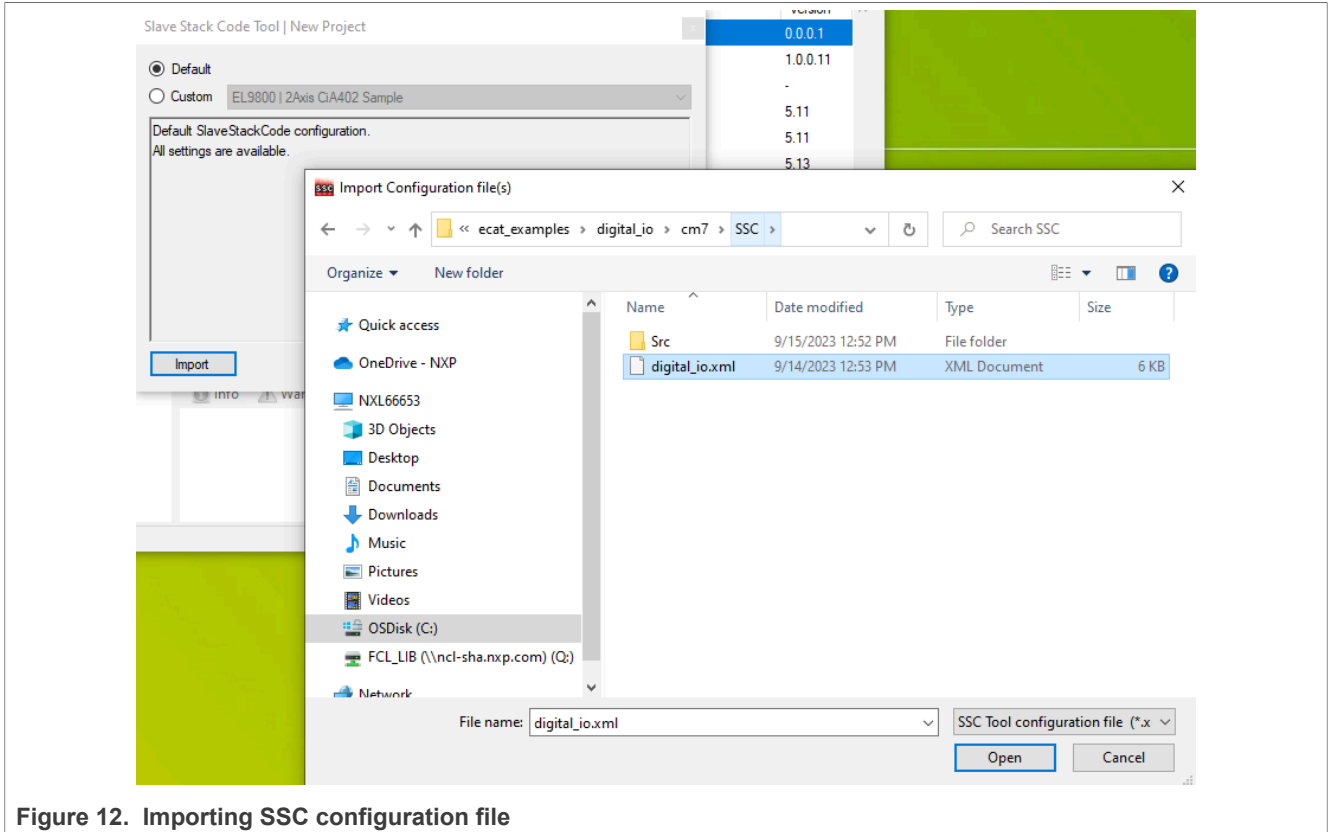

Figure 12. Importing SSC configuration file
4. NXP Digital IO project can be added by using the SCC configuration file, located in the MIMXRT1180-EVK SDK, as shown in Figure 12. The SDK version used in this application note is 2.14.1. The SCC configuration file path is below: